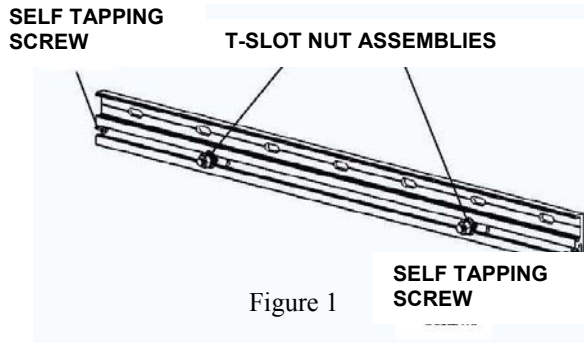

Figure 1
2. Insert two T-slot nut assemblies into each of the lateral shift extrusions (Figure 1).
3. Insert one self-tapping screw into each end of the extrusions to trap T-slot nut assemblies in the tracks (Figure 1).